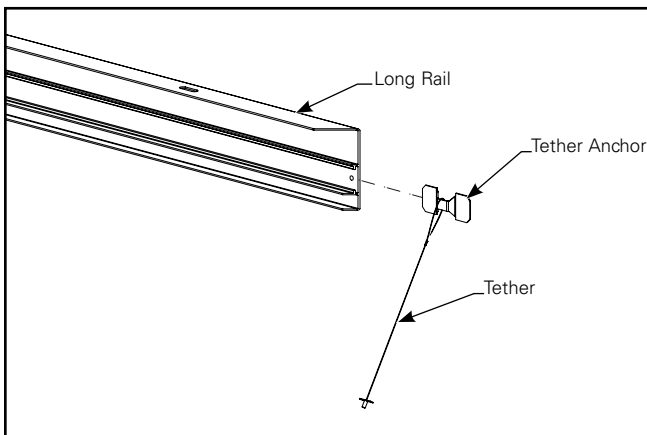

Figure 2.
- A2. Feed a tether anchor through the loop on the end of a tether, then slide the tether anchor into the slot on one of the long rails. Repeat this step for the second tether and tether anchor on the same long rail. (Figure 2.)